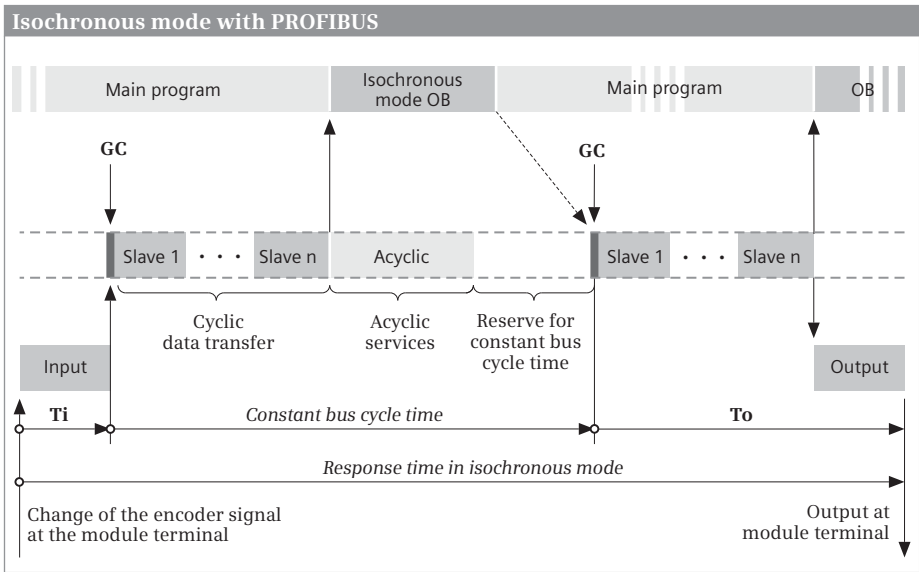

Fig. 16.26 Response time with constant bus cycle time and isochronous mode
Fig. 16.26 shows the times involved in the isochronous mode. Ti is the time required for reading in the process values. It contains the execution time in the input modules or electronic modules and, in the case of modular DP slaves, the transfer time on the backplane bus. At the end of Ti, the input information for transfer using the global control command (GC) is available. The equidistant bus